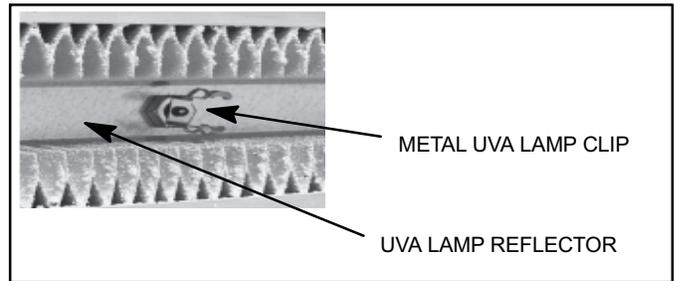

Figure 6. UVA Lamp Clip
7. Verify that the UVA lamp is secured by the metal UVA lamp clamp (see figure 6) located mid-way on the UVA lamp reflector.